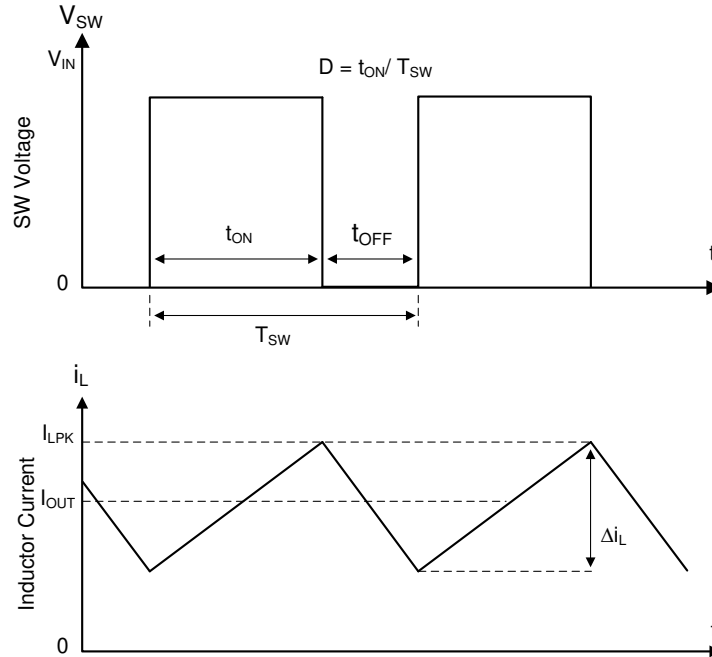

图 8-1. SW Node and Inductor Current Waveforms in Continuous Conduction Mode (CCM)
The following operating description of the LMR51420 refers to 节 8.2 and to the waveforms in 图 8-1. The LMR51420 is a step-down synchronous buck converter with integrated high-side (HS) and low-side (LS) switches (synchronous rectifier). The LMR51420 supplies a regulated output voltage by turning on the high-side and low-side NMOS switches with controlled duty cycle. During the high-side switch on time, the SW pin voltage swings up to approximately V_{IN} , and the inductor current, i_L , increases with a linear slope of $(V_{IN} - V_{OUT}) / L$. When the high-side switch is turned off by the control logic, the low-side switch is turned on after an anti-shoot-through dead time. Inductor current discharges through the low-side switch with a slope of $-V_{OUT} / L$. The control parameter of a buck converter is defined as: